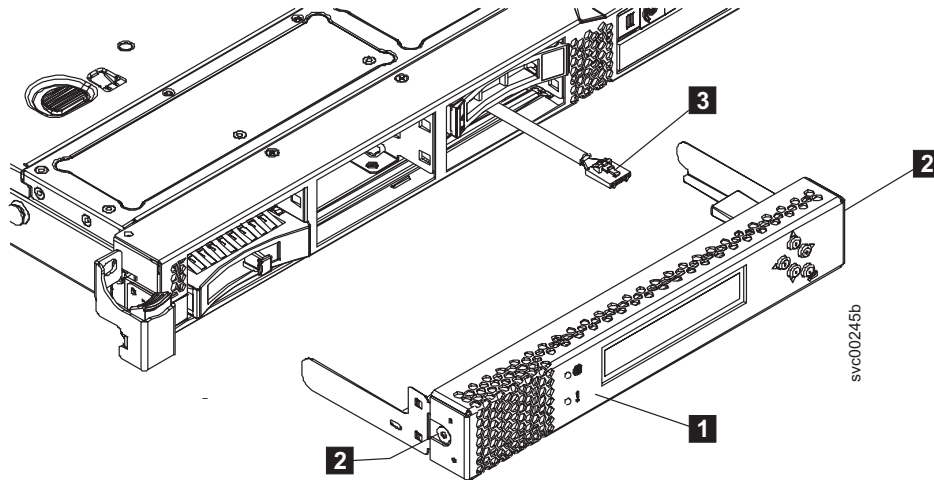

Figure 73. SAN Volume Controller 2145-CG8 or 2145-CF8 service controller
8. If you are intending to replace the service controller FRU, detach the USB cable, shown by **3** in Figure 73 on page 91, from the service controller.